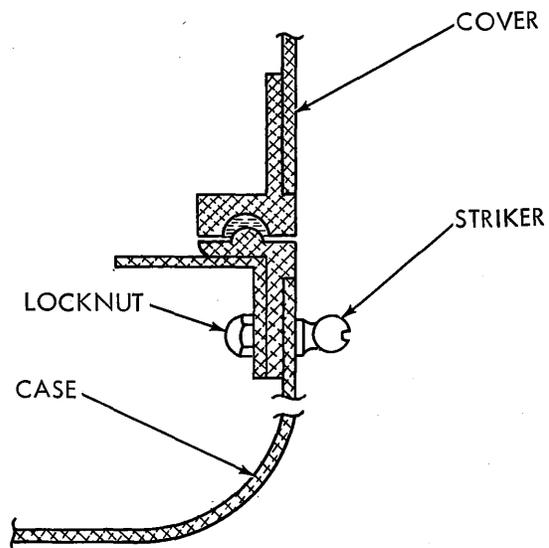

Figure 2 - Striker Adjustment
A. Striker Adjustment (See Figure 2)